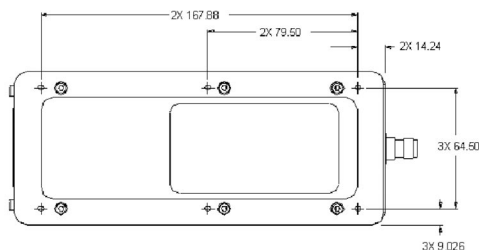

Figure 3: Bottom View
The 9522A LBT incorporates (6) mounting holes on its bottom surface that can aid in its mounting. See Figure 3 for locations of these features. It is recommended that a thread-forming screw be used to mount the 9522A LBT via these features. Particularly, a Textron Camcar® Taptite® II Thread-Rolling Fastener of M3.5x0.6 thread type is recommended. This fastener has a 15IP Torx Plus® pan head and is available in lengths of 6, 8, 12, 16, and 20 mm as part number 3BE-P802-00, 3BE-P803-00, 3BE-P8185-00, 3BE-P804-00, 3BE-P8186-00, and 3BE-P8187-00 respectively. Length should be chosen to ensure that penetration into the 9522A LBT housing does not exceed 11mm.